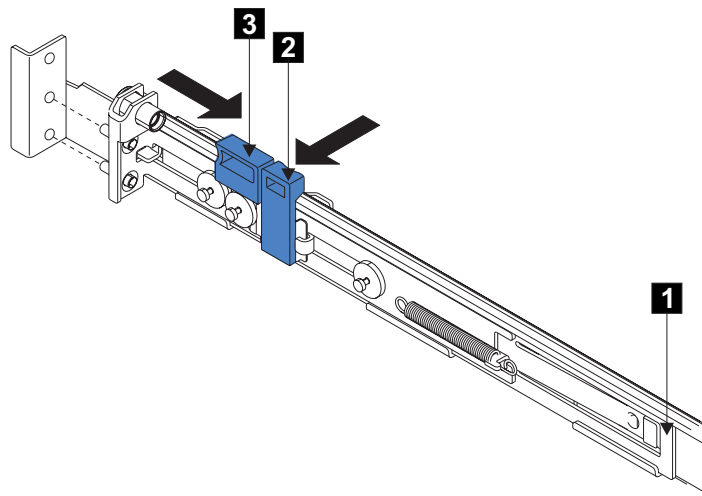

Figure 82. Opening the back latch-lock carrier assembly
5. Push the back rail bracket **1** (Figure 82) toward the front of the rail until it stops. The rail is now at its shortest adjustment.
12. Push the back rail bracket **1** (see Figure 82 on page 209) toward the rear of the rack and align the locating pins with the rack-mounting flange.
13. Push the latch lock **2** (see Figure 82 on page 209) away from the rail to release the carrier. The latch-lock carrier slides toward the rear of the rack, and the locating pins project through the holes that are in the rear flange and in the rear rail bracket.